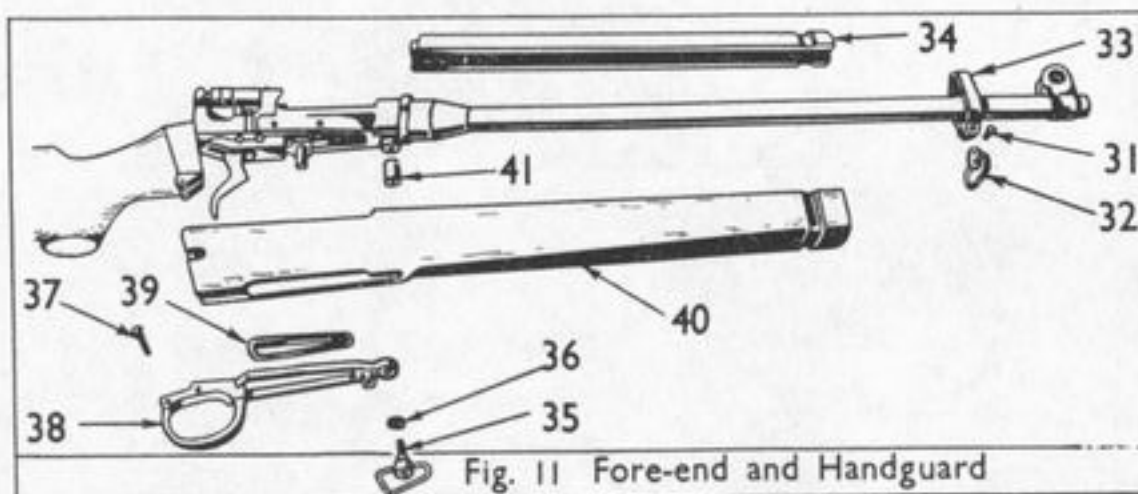

Fig. 11 Fore-end and Handguard
37. Fore-End and Handguard (Fig.11). - Remove the front swivel screw (31) and remove the swivel (32) and band (33). Lift off the handguard (34), remove the front trigger guard screw (35), and remove the spring washer (36). Remove rear trigger guard screw (37); remove trigger guard (38) and trigger guard filler (39). Remove the fore-end (40), and collar (41).